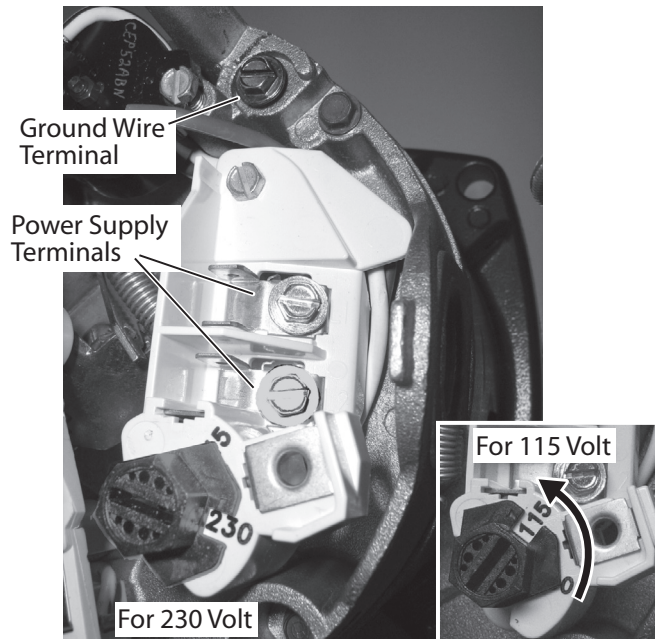

Figure 4: Voltage set to 230 volts, Dial Type; turn dial to select 115 volts. Insert tool in slot to turn dial.
Your motor terminal board (located under the motor end cover) should look like Figure 4.
- Step 7. Connect current carrying conductors to terminals L1 and L2 under motor canopy. When replacing motor, check wiring diagram on motor nameplate against Figure 4. If the motor wiring diagram does not match Figure 4, follow the diagram on the motor.
- IMPORTANT:** 115/230 Volt single phase models are shipped from factory with motor wired for 230 volts. If power supply is 115 volts, remove motor canopy and change switch dial on motor as shown in Figure 4. Do not try to run motor as received on 115 volt current.